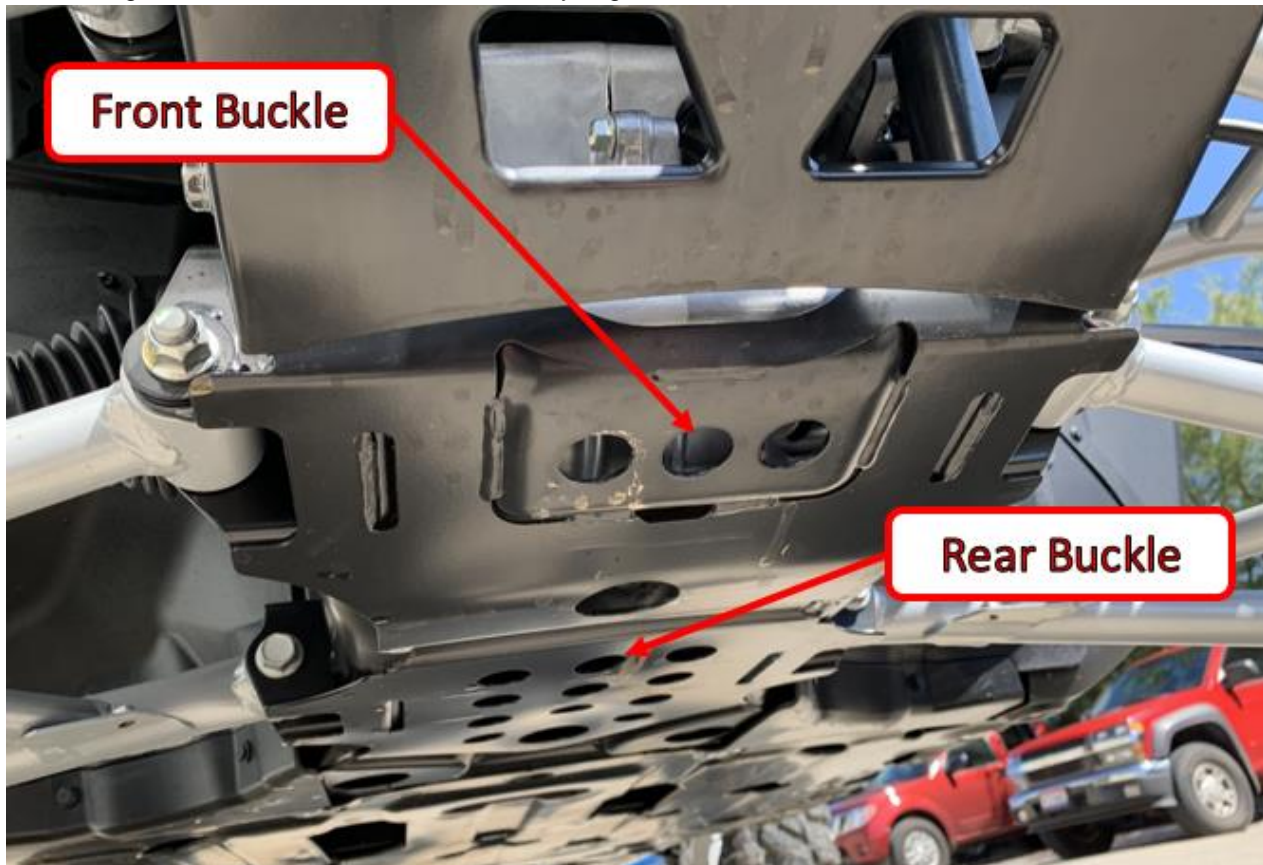

Figure 2
1. Position the MA11720-W2 Front Buckle and MA11720-W3 Rear Buckle on the topside of the Talon frame as shown in Figure 2. Position the weld nuts so they align with the two sets of three holes.